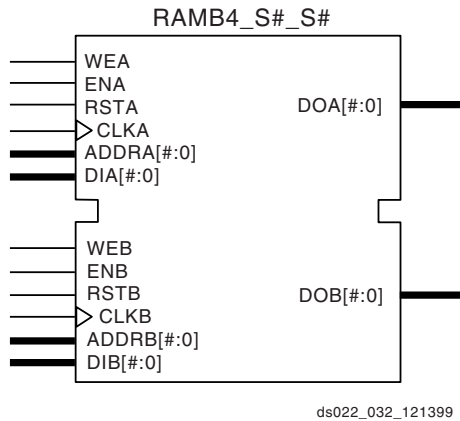
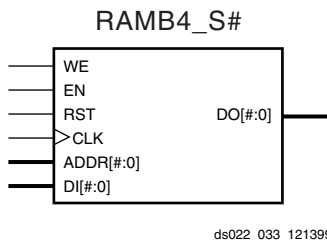

Figure 31: Dual-Port Block SelectRAM+ Memory
Figure 32: Single-Port Block SelectRAM+ Memory
**Figure 31** and **Figure 32** show the two generic library block SelectRAM+ primitives. **Table 14** describes all of the available primitives for synthesis and simulation.